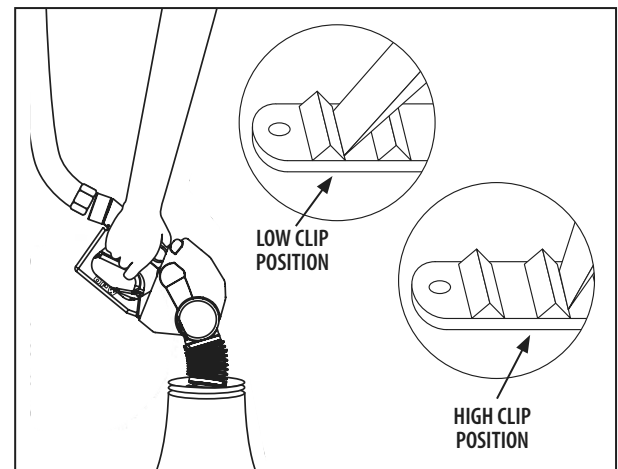

FIGURE 16
- 6) Test each nozzle a minimum of five (5) times in each clip position. (*Figure 16*)